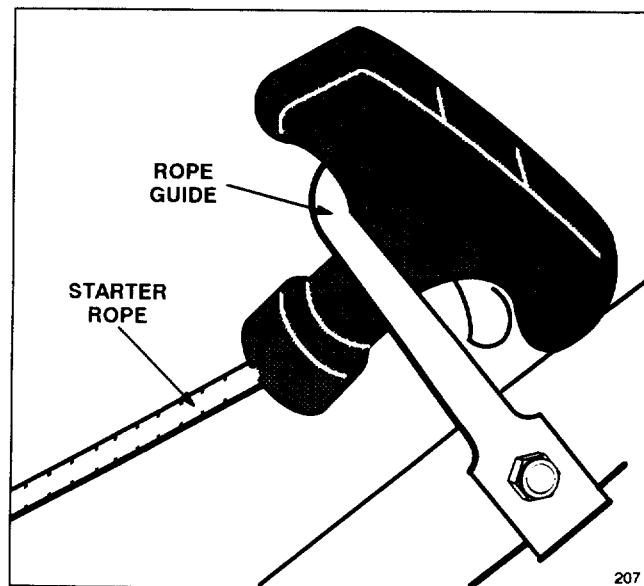

Figure 3
3. STARTER ROPE (Fig. 3)—Pull starter rope through opening in rope guide. By squeezing control bar (Fig. 6) against handle, blade brake will release and allow rope to be pulled easily up to rope guide.